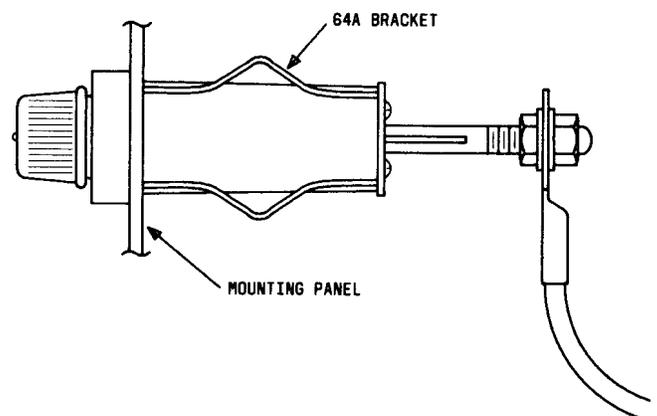

Fig. 17—20A Fuse Block (Head Mounting Using 64A Bracket)
**Note 2:** If head mounting is necessary, 20A fuse block breakage can be alleviated by using the 64A bracket (a phosphor bronze bracket designed specifically for use with the 20A fuse block). (See Fig. 17.)